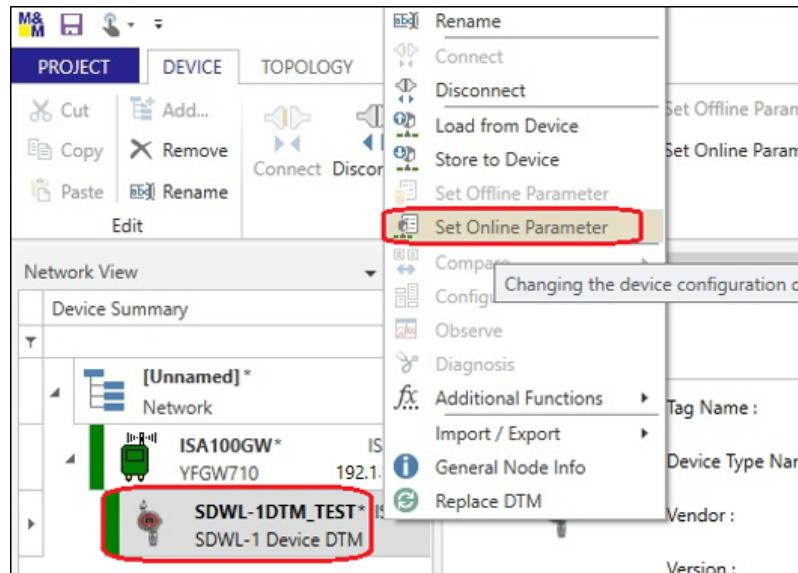

Figure 5-51 Selecting “Set Online Parameter” menu
- ⑬ Right-click the SDWL-1 (tag name) in the tree menu on the left side of the main window, then select “Set Online Parameter”. (Figure 5-51)